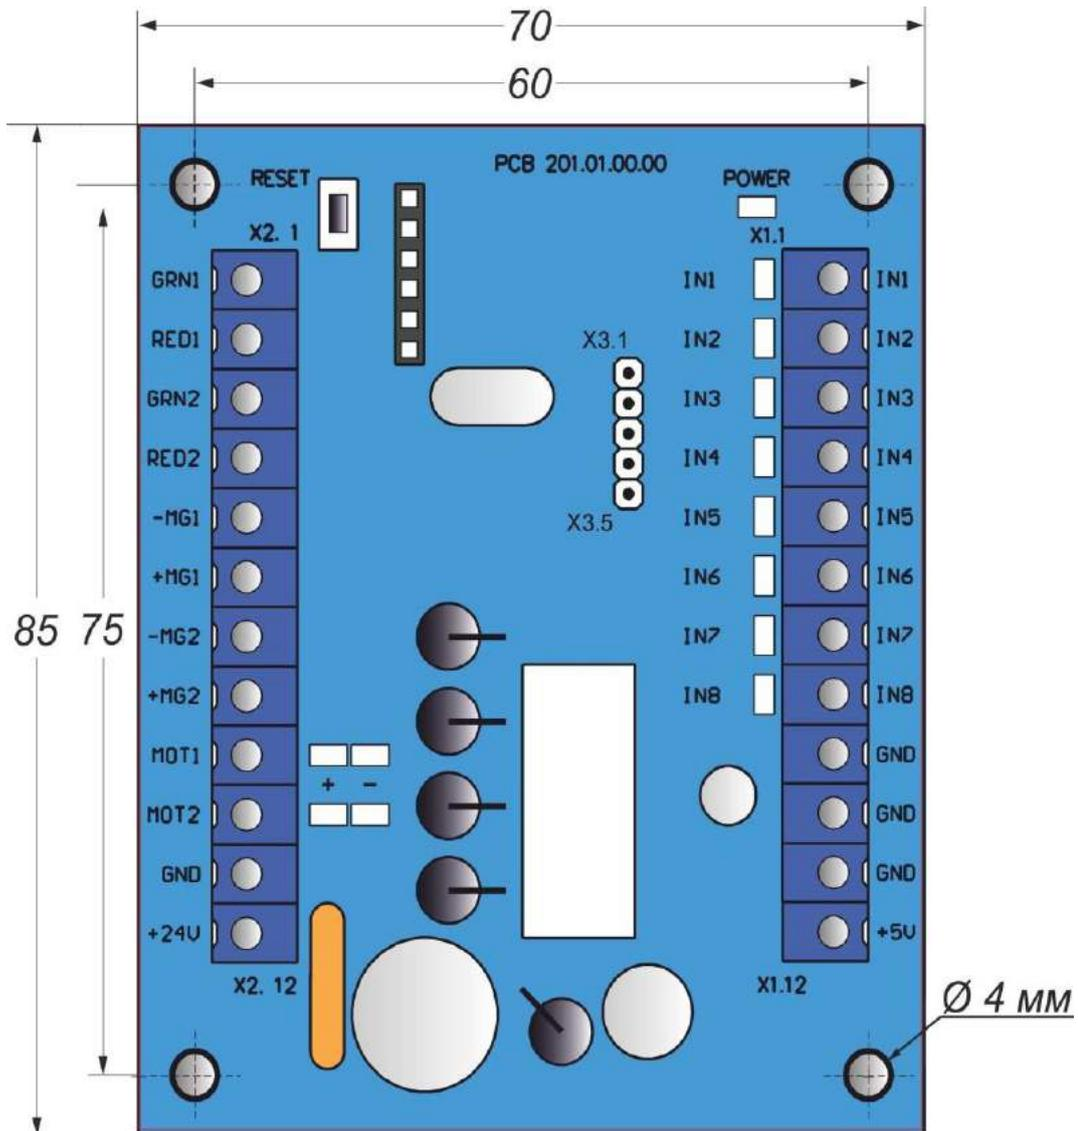

Fig. 9 – Appearance of controller PCB.201.01.00.00
1.6.2.1 Appearance of controller PCB.201.01.00.00 is shown in *Figure 9*.